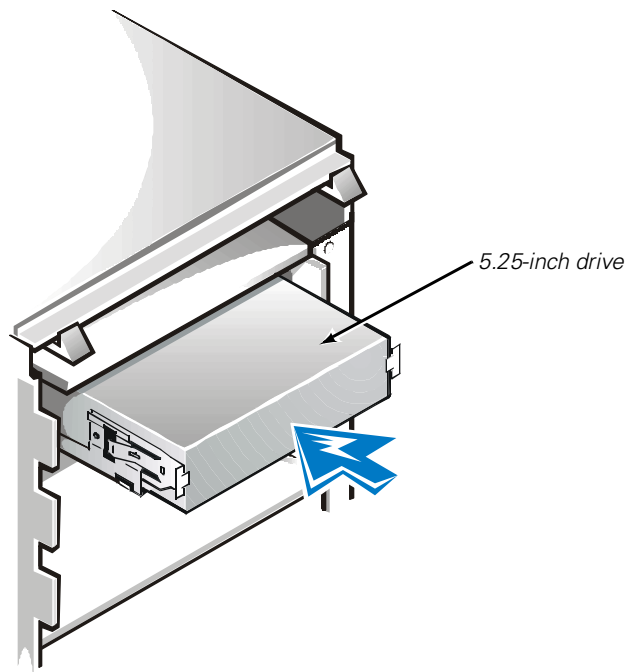

Figure 9-6. Inserting the New Drive Into the Drive Bay
6. Slide the new drive into the drive bay until it snaps securely into place (see Figure 9-6). Make sure that both bracket tabs snap into place in the drive bay.